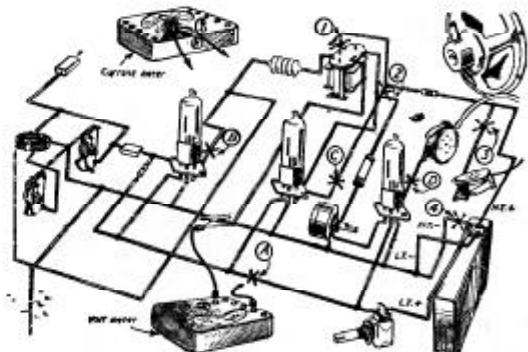

Fig. 31.—The three-valve receiver circuit in pictorial form showing the points to which meters are joined for testing.
**A Practical Test in Measuring.**—We can now proceed with a practical demonstration by testing the three-valve circuit which has already been described in this book. Fig. 31 shows the receiver in pictorial form, but with two meters added. These may be a single instrument in which by means of switches or plugs and sockets the instrument may be made to measure voltage or current. As explained already, voltages may be measured without interrupting the circuit whilst for current readings the circuit must be broken and the meter interposed.